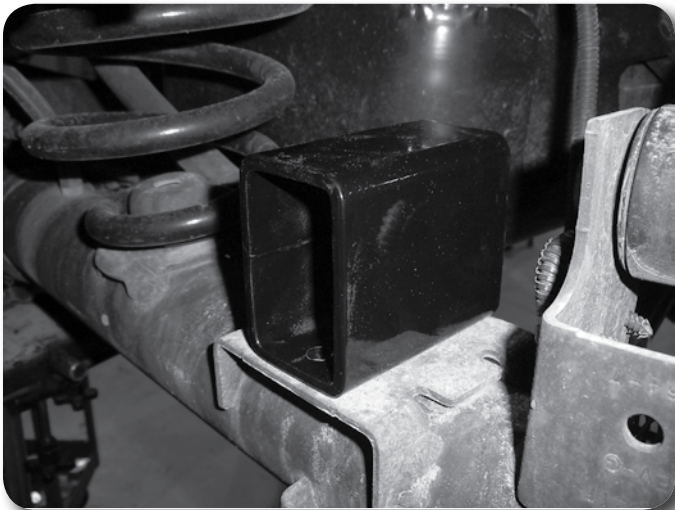

Figure 23
31. Locate the new provided rear bump stops. The rectangular bump stops mount to the existing holes in the axle bump stop pad. One of the bump stops will have a corner missing. This is the passenger's side bump stop which needs to be positioned on the axle so that the upper chamfered corner is toward the rear. Fasten the bump stops to the axle with 1" x 1-1/4" bolts, nuts and washers. Torque hardware to 20 ft-lbs. Figure 23